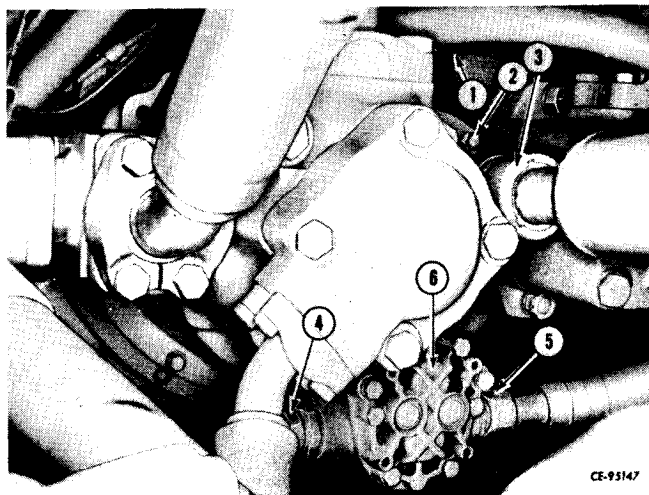

Figure 2-16
Disconnect lines (4, 5, Fig. 2-16) from transmission charging pump (6). Remove drive shaft